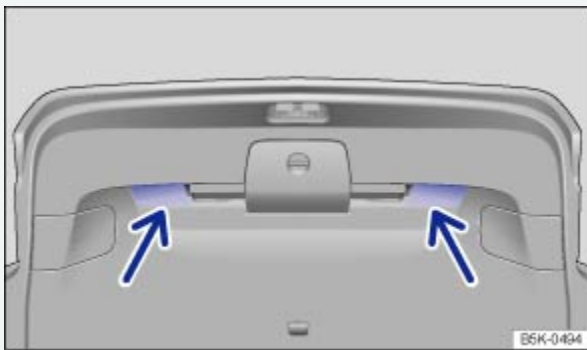

Fig. 36 Opened trunk lid: Recessed grips for closing.
- Grasp one of the recessed grips in the trunk lid trim ⇒ Fig. 36 (arrows).